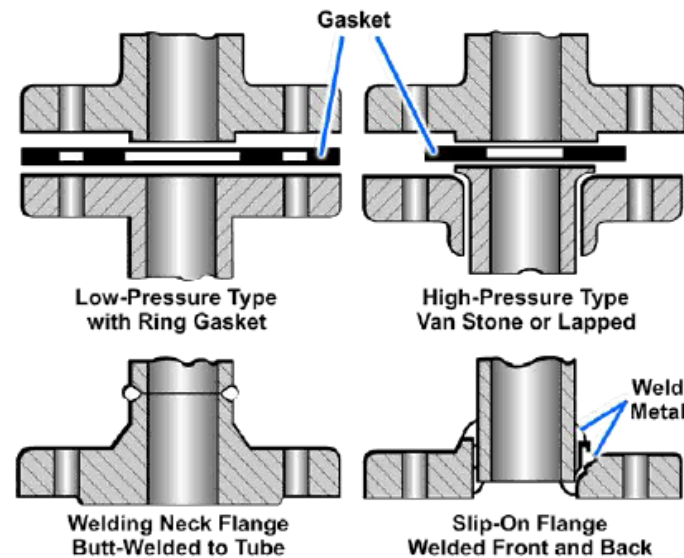

Figure 5-14: Four types of bolted flange connectors.
- Bolted flange connectors (Figure 5-14) are suitable for most pressures now in use. The flanges are attached to the piping by welding, brazing, tapered threads (for some low-pressure systems), or rolling and bending into recesses. Those illustrated are the most common types of flange joints used. The same types of standard fitting shapes (tee, cross, elbow, and so forth) are manufactured for flange joints. Suitable gasket material must be used between the flanges.